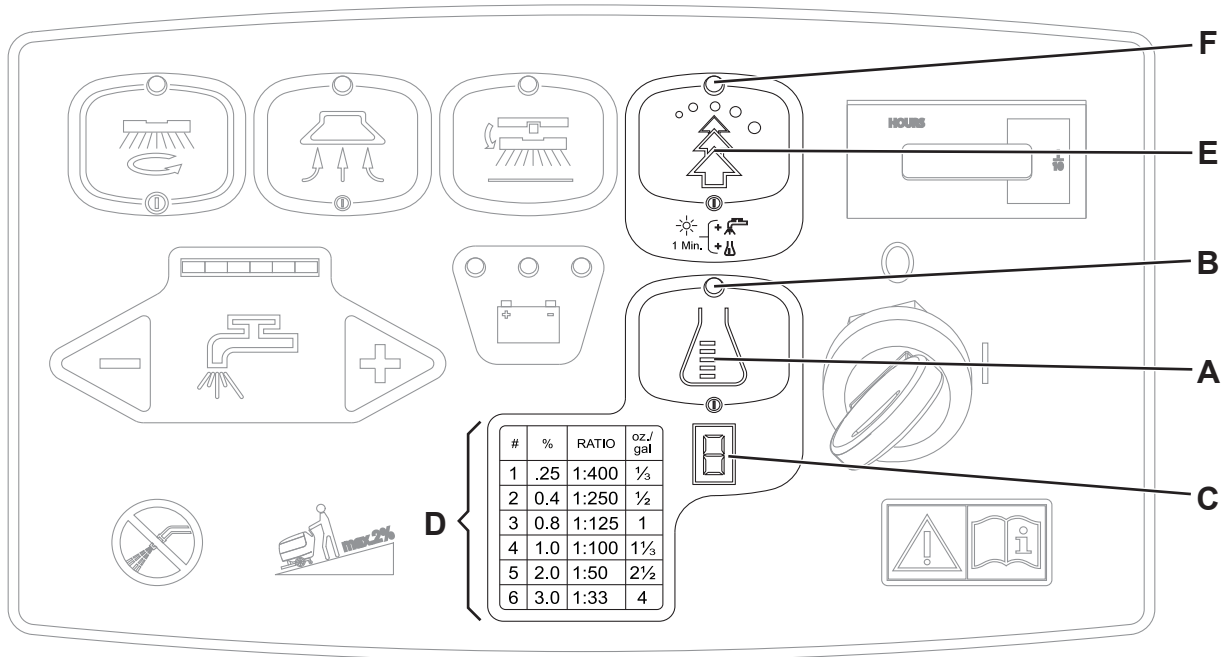

Figure 5
The system used to mix the detergent with the washing water can be activated by pressing the detergent flow control switch (A, Fig. 5); when the led indicator (B) is ON, the detergent is added to the washing water.
Press the EcoFlex™ switch (E, Fig. 5) whenever you temporarily need a greater washing power.